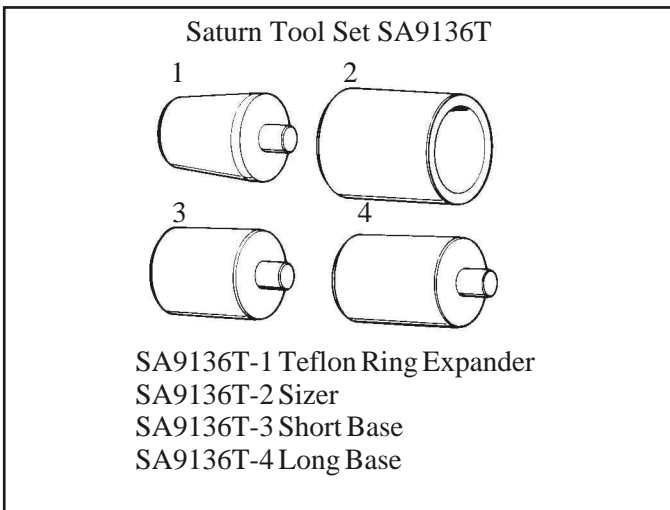
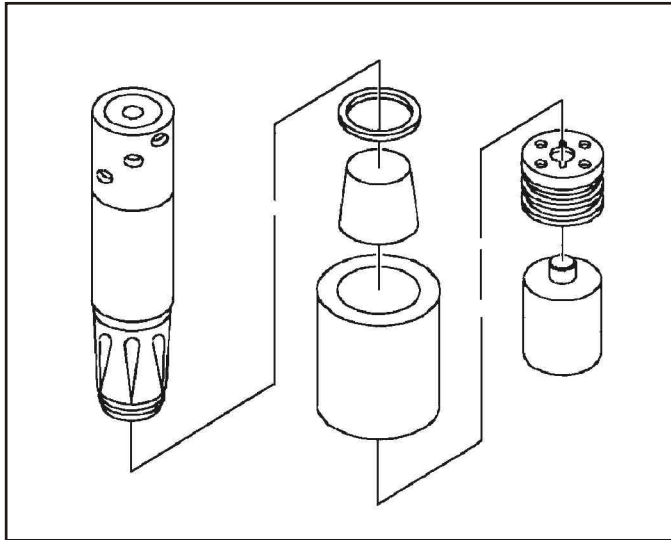

Figure 162
Figure 163
1. Using Saturn's seal installation tool or equivalent (See Figure 162), install new sealing rings onto the 1st clutch flange (See Figure 163).
2. Place the hub with retaining bolt threads facing up on the TALL support tool SA9136T-4 (See Figure 163)
3. Place Sizer SA9136T-2 over the hub, with the large internal diameter down, to act as a seal stop (See Figure 163).
4. Install the expander cone SA9136T-1 on the hub and place the sealing ring onto the cone (See Figure 163).
5. Use the pusher SA9136T to install the ring (See Figure 163).